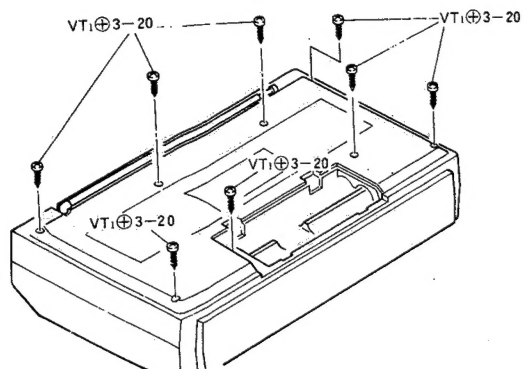

Fig. 1
- 1) Remove the 8 screws. (See figure 1)